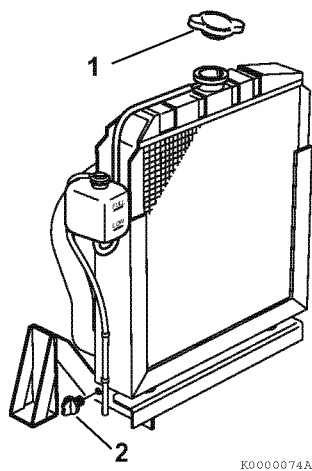

Figure 5-17
2. Remove the radiator cap (1, **Figure 5-17**).
3. Remove the drain plug or open the drain valve (2, **Figure 5-17**) at the lower portion of the radiator and drain the engine coolant.